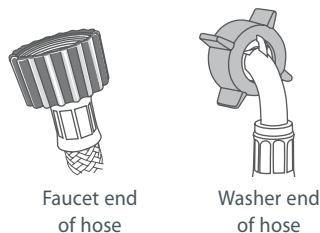

Fig.6 Inlet hose ends
- 1 Install hoses with the straight end (with filters) fitted to the faucets (Fig.6).
- 2 Install elbow ends onto washing machine (Fig.6). Inlet valves are marked on the back of the machine